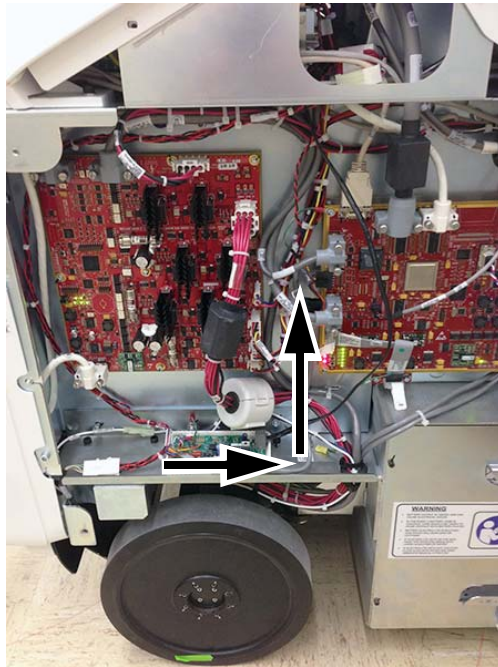

Figure 2-5 Route cable
5. Route the cable attached to the PCB Module up along the main cable bundle between the Spyder and Locust boards. See Figure 2-5.